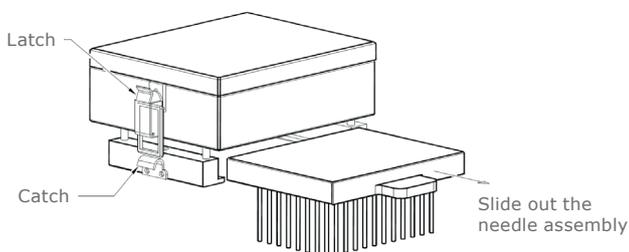
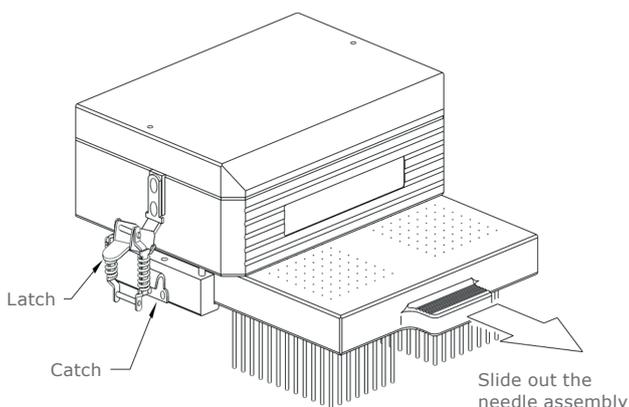

Figure 6. The upper needle assembly of the SPE Dry 96 system.
Figure 7. The upper needle assembly of the SPE Dry 96 Dual system.
1. Remove the head by depressing the latches located on each side of the head; see Figure 6 and Figure 7.